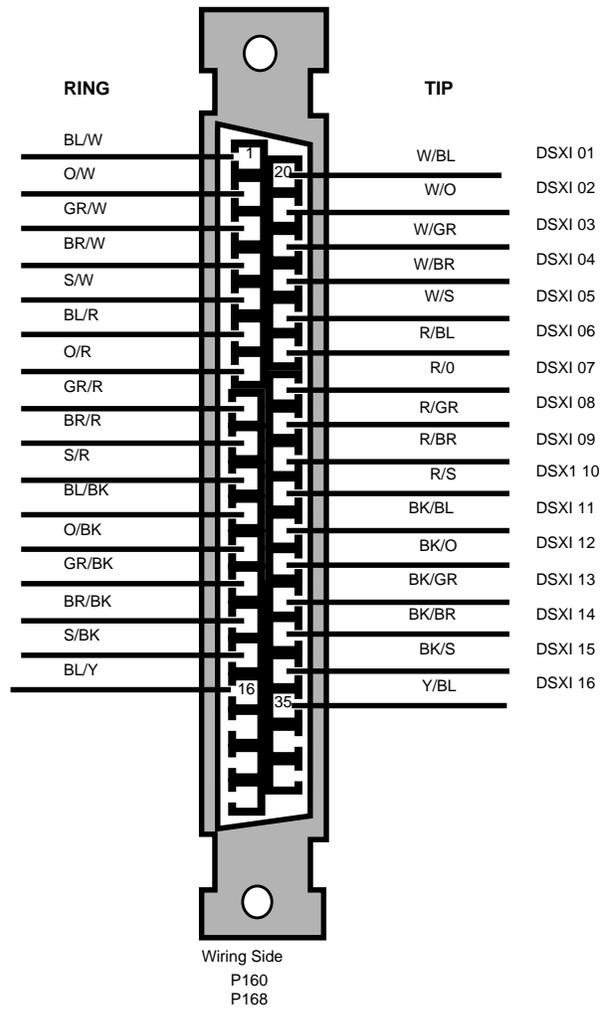

Figure 3-26. DS1 IN (1 - 16) Connections
- Step 3:* Terminate the receive pairs (DS1 IN) at the DSX and label the leads in accordance with the Figures 3-26 and 3-27.